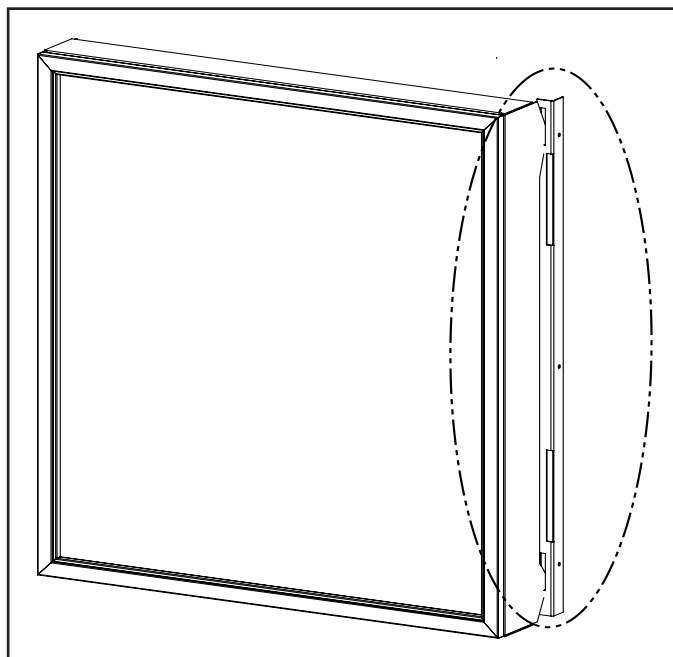

Figure 65: Installing Safety Screen onto Cabinet Bracket (Parts removed for clarity)
2. Lift the face upright in front of the fireplace with the four (4) hooks pointing towards the fireplace. Slide the hooks into the corresponding brackets on each side of the cabinet (see Figure 65). Ensure the hooks are secure before releasing the safety screen.